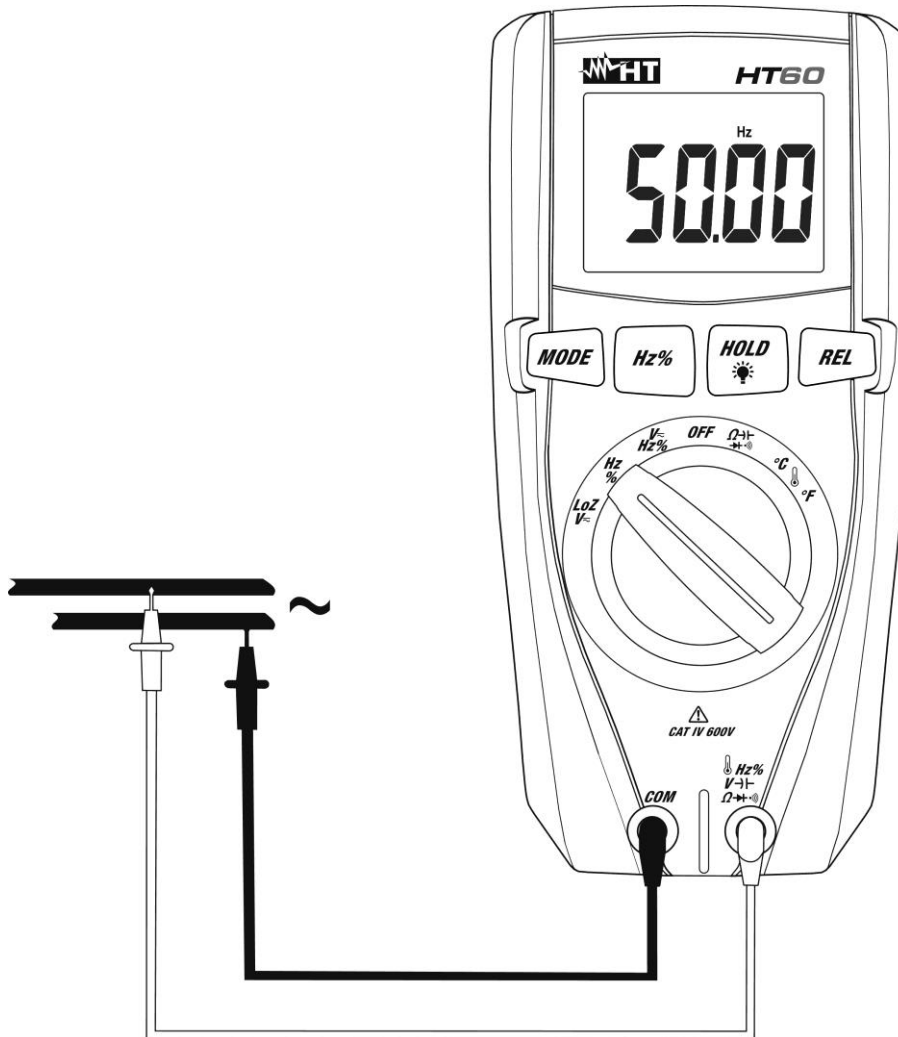

Fig. 7: Use of the instrument for frequency measurement and duty cycle test
3. Position the test leads in the desired spots of the circuit to be measured (see Fig. 7). The display shows the value of frequency.